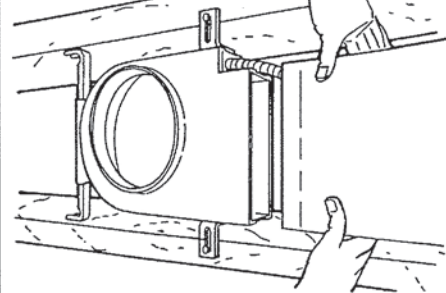

FIG. 11
4. After finished ceiling is installed, install motor and plug in. Spin blade by hand to make sure that blade does not strike anything in housing (FIG. 11).